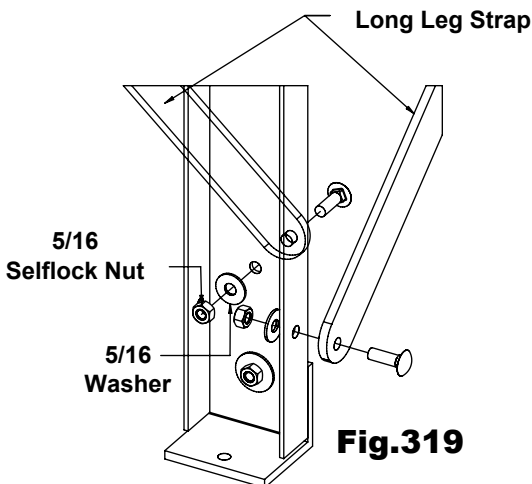

Fig.3.19
3.7.2 PLATFORM LONG LEG SUPPORT (STRAP): Once platform assembly has been completed the long leg support straps can now be attached. First attach support strap to leg channel using the holes in the leg channel fasten with 5/16x1 carriage bolt, washer, and selflock nut (Fig.3.19). Next select the slotted hole in the bottom support angle best suited for platform application and fasten with a 5/16x1 carriage bolt, washer, and selflock nut. (Fig.3.20). **NOTE:** Some applications may require drilling a hole in the leg channel to attach the long leg support straps.